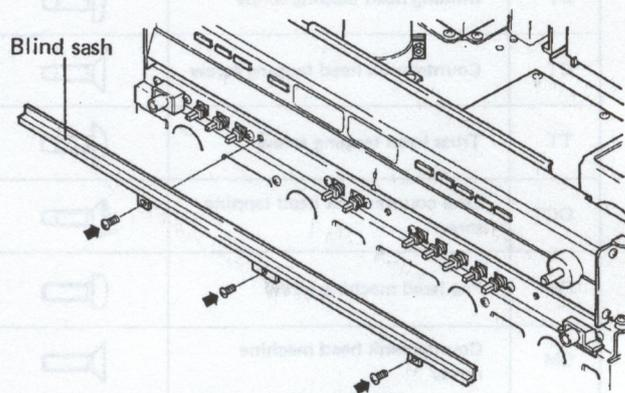

Fig. 31
2. Remove the three screws to detach the blind sash (Fig. 31).